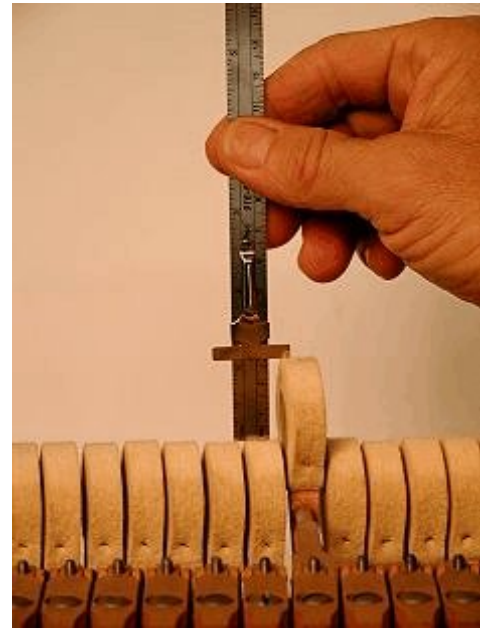

Figure 3: Measuring the hammer movement resulting from the 6mm key travel of the ratio tester
2. Measure the resulting hammer rise as in Figure 3.